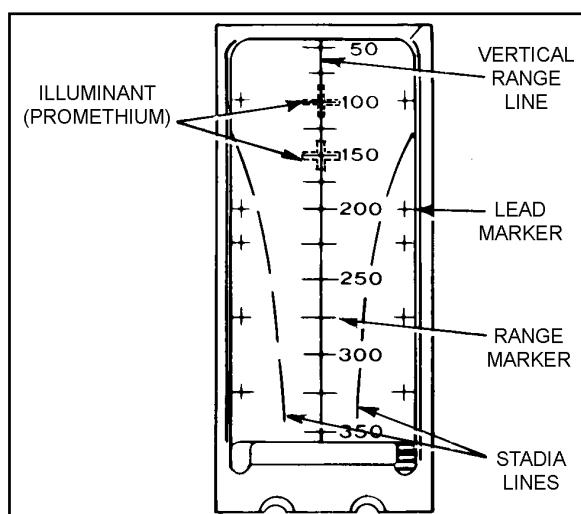
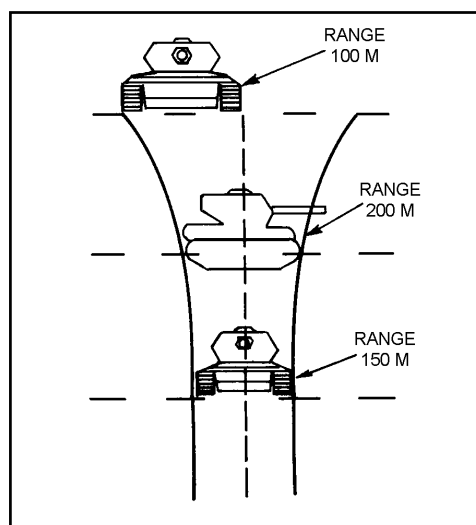

Figure 2-12. M72A1 reticle.
Figure 2-13. Using M72A1 stadia lines to engage targets.
(4) Use the M72A1 reticle to estimate the range to a 20-foot target such as a tank viewed from the side (Figure 2-12). Place the sight so that the rear and front of a flanking target fit between the curved vertical lines (Figure 2-13). When you read the range from the scale, note that the width of the tank is about one-half the tank's length. This means you can estimate the range to a target, whether it is headed straight toward you or straight away from you, by placing its sides between the curved vertical lines and halving the range shown at that point. The bottom of each vertical line in the center of the reticle